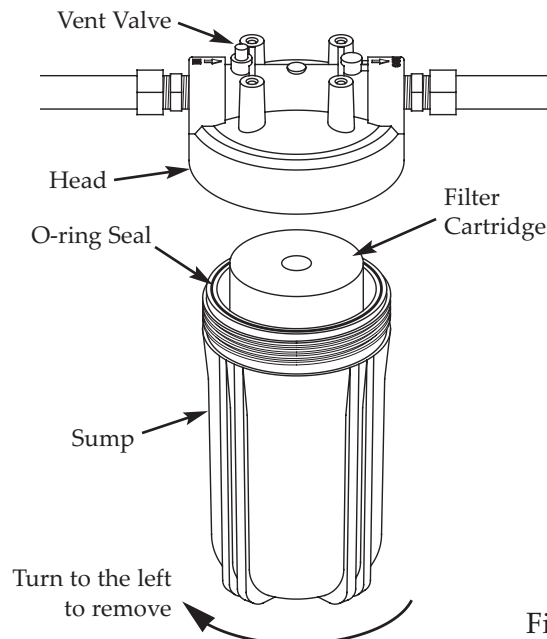

Figure 14
1. Close the nearest shutoff valve on the water supply pipe to the filter. To relieve pressure in the filter, press the vent valve on top of the filter head (See Figure 14) or open a cold water faucet after the filter. Some water may leak out of the vent valve as pressure is being relieved.
2. Turn the sump to the left to remove from the head (See Figure 14). Be careful, as the sump is full of water. Do not lose the large o-ring seal.